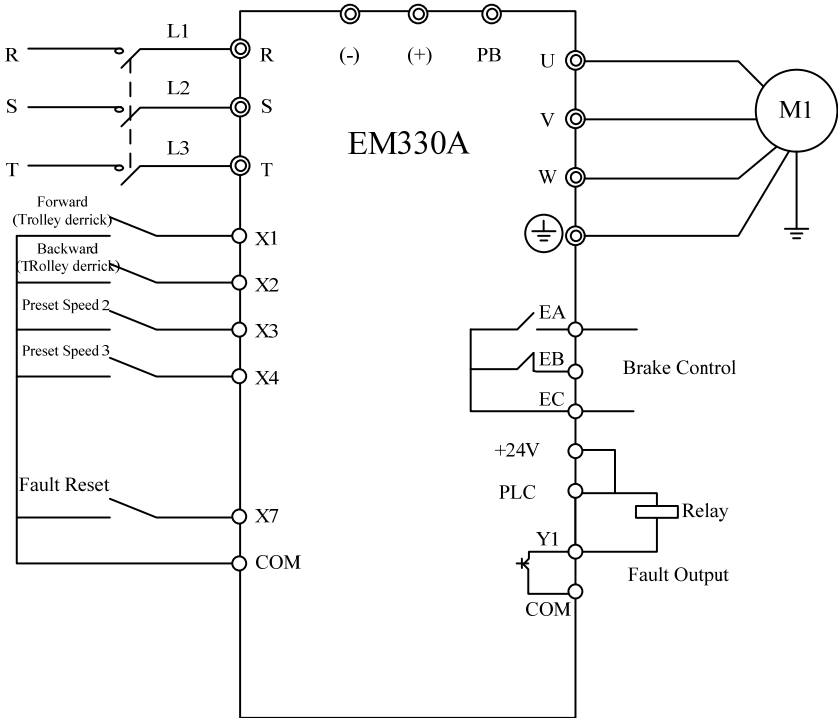

Figure 12-5 EM330A Wiring of Tower Crane Trolley Derricking
2. When EM330A selects F4-28 as crane trolley derricking application macros, please configure terminals Xi, Y1 and R1 as per Figure 12-5.